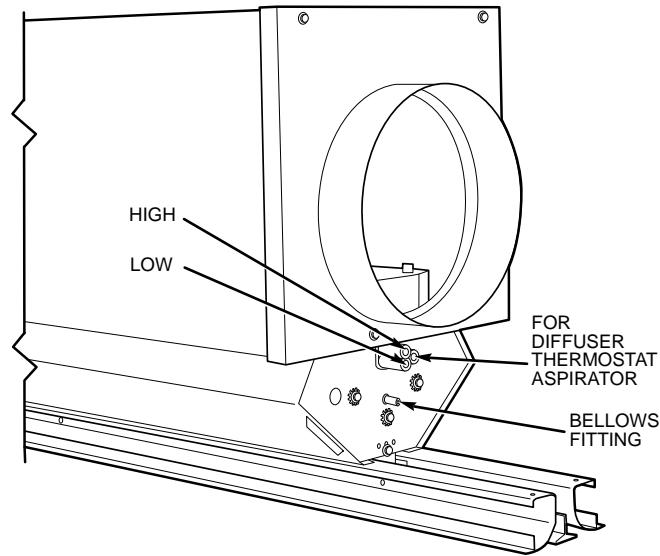

Fig. 22 — Typical 37HS Air Terminal Before Installation of Controls
2. Remove cap from bellows fitting and install $1\frac{1}{16}$ -in. long piece of $\frac{1}{4}$ -in. OD pneumatic adapter tubing onto the bellows fitting (push on full length of fitting). See Fig. 22.